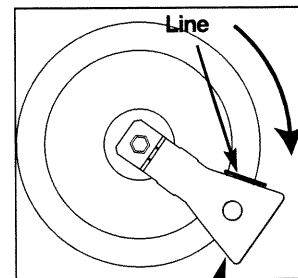

Fig. 4
- ⇨ Turn the spanner clockwise until the line appears on the other side (fig. 4).